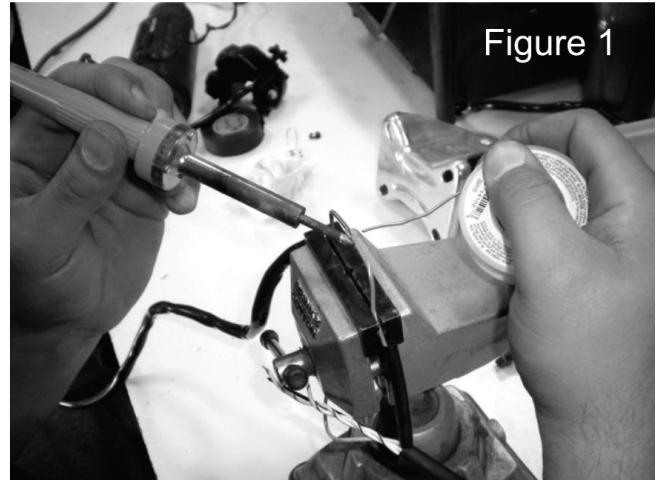

Figure 1
5. Match up the wire colors on each side with the extension wires in the kit and solder them to their mates (figure1). Be sure to match the twisted pair of wires (white-black/white-red) to the twisted pair in the extension harness.